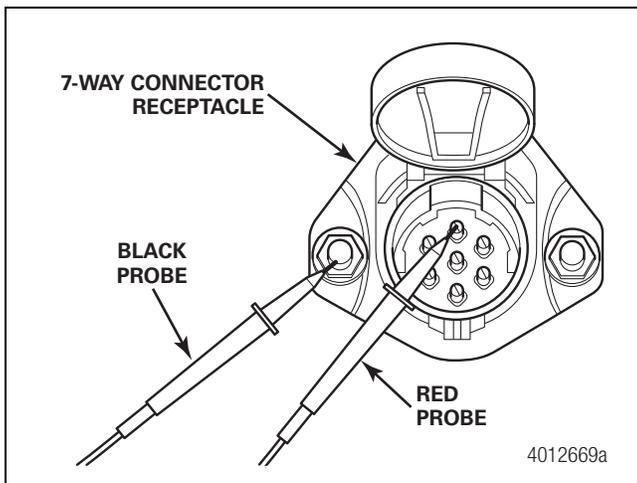

Figure 1
3. Using a digital volt ohmmeter (DVOM), measure the resistance from the J560 7-way ground pin (the large pin at the top of the receptacle) to a metal component on the trailer chassis. Figure 1.
11. Check the resistance from the top pin of the J560 7-way connector to both mounting studs to verify it is less than 10 ohms ($<10 \Omega$). Figure 1.